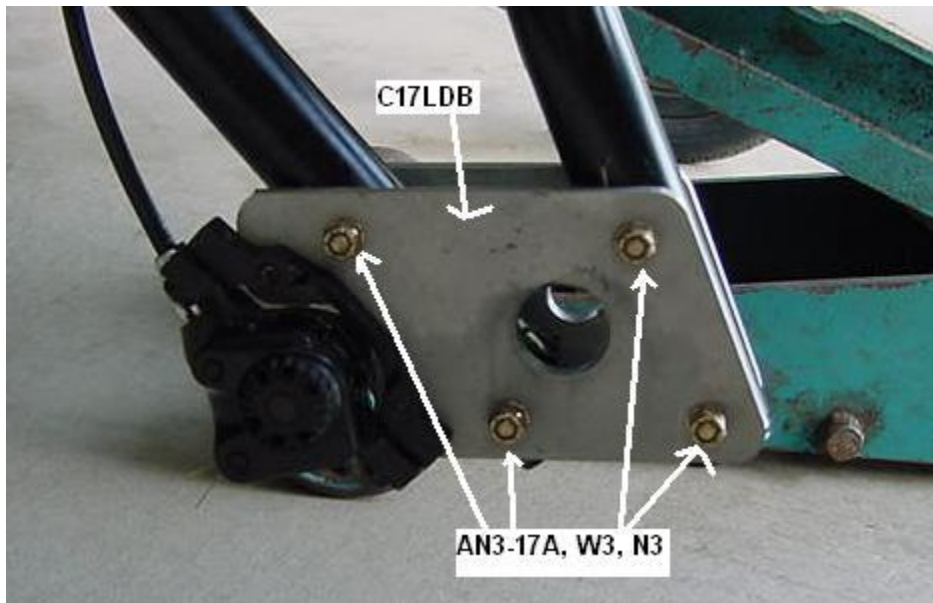

Figure 1 – C17LDB, Left Gusset Plate
STEP 1 – Remove existing brake system and install new gusset plates C17B, C17LDB and C17RDB as shown in Figures 1, 2 & 3. These plates should be bolted using (4) AN3-17A, (4) W3 and (4) N3. The brake calipers are identical and therefore must be positioned differently on each side of the gear thus 2 different outside plates are required. The caliper will be in the rear on the right side and the caliper will be in the front on the left side.